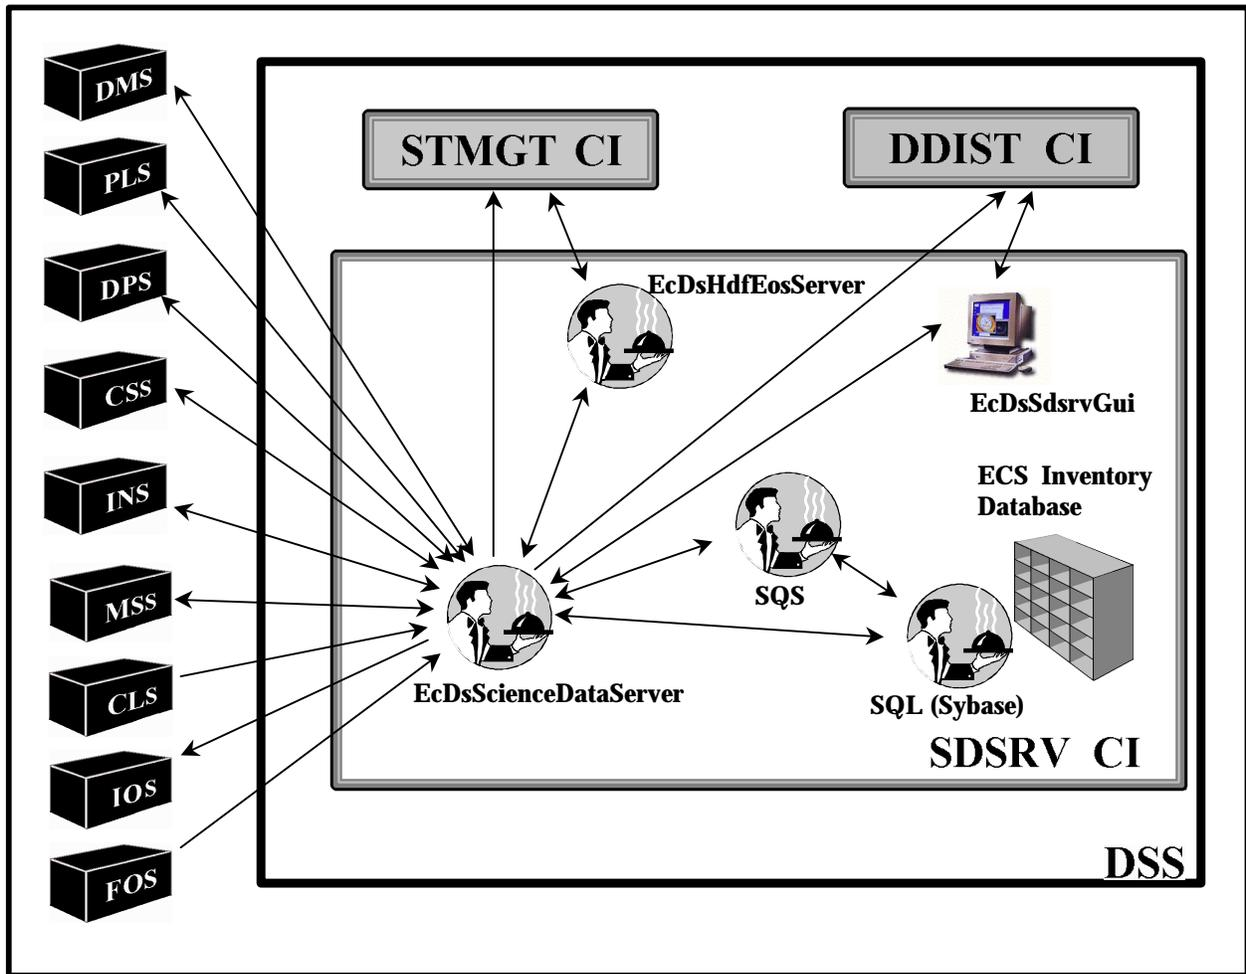

Figure 4. Science Data Server (SDSRV) CSCI Architecture
- SDSRV (Figure 4) is the part of the DSS that manages and provides user access to collections of non-document Earth Science data.
SDSRV has the following major components (as shown in Figure 4):